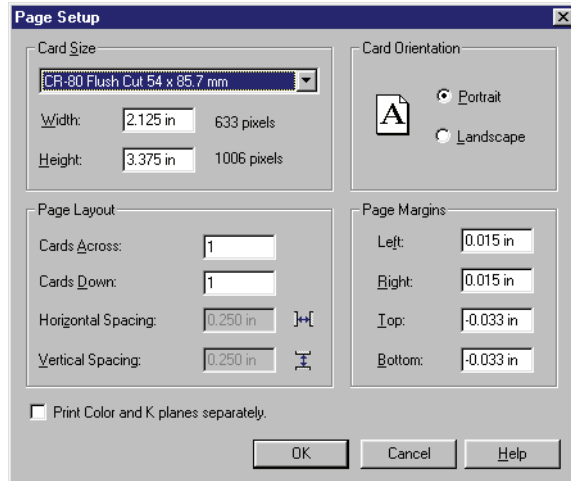

Figure 9-11: Page Setup for a Badge
5. After you have selected your printer, click on File ⇒ Page Setup. The Page Setup window appears (see Figure 9-11 on page 13 of this section).